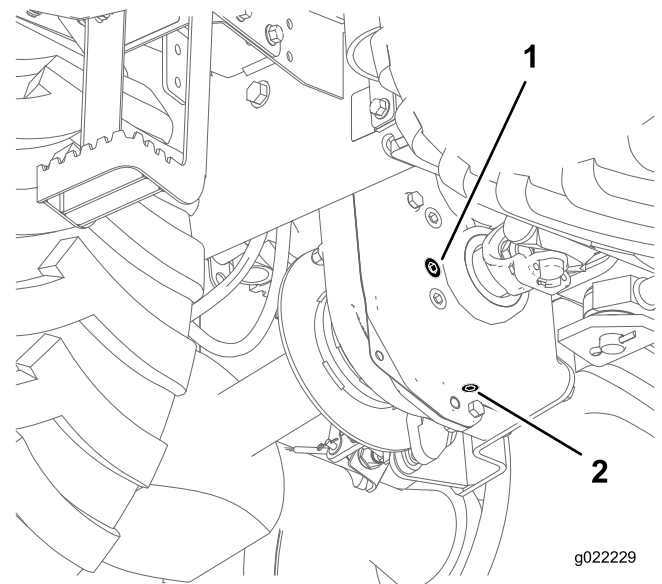

Figure 37
2. Clean the area around the fill plug with a cleaning solvent (Figure 37).